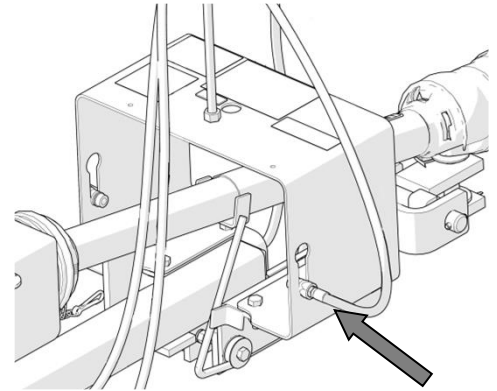

Figure 9
- 7) Disconnect hydraulic couplers from tractor & stow in supplied locations in the sides of the intermediate shield (Figure 9).